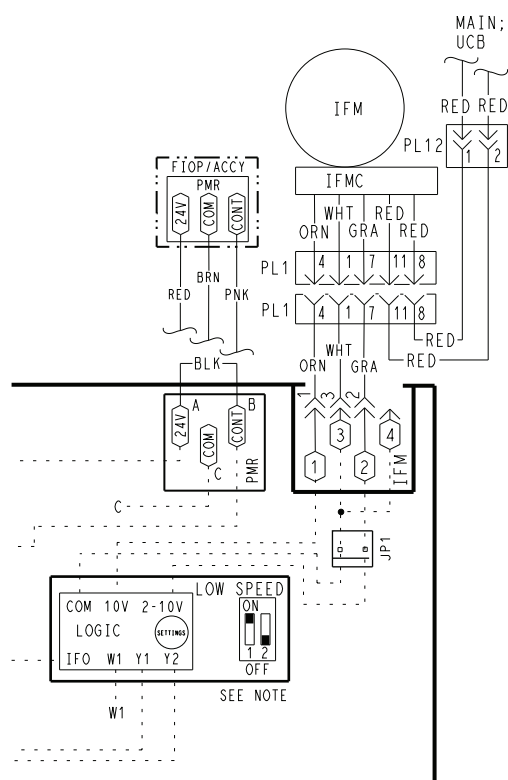

Fig. 12 — Supply Fan Control Wiring Diagram
8. Check for proper motor control voltage signal of 9.7 vdc to 10.3 vdc at IFM-1 and IFM-3 on Unit Control Board (UCB). See Fig. 12.